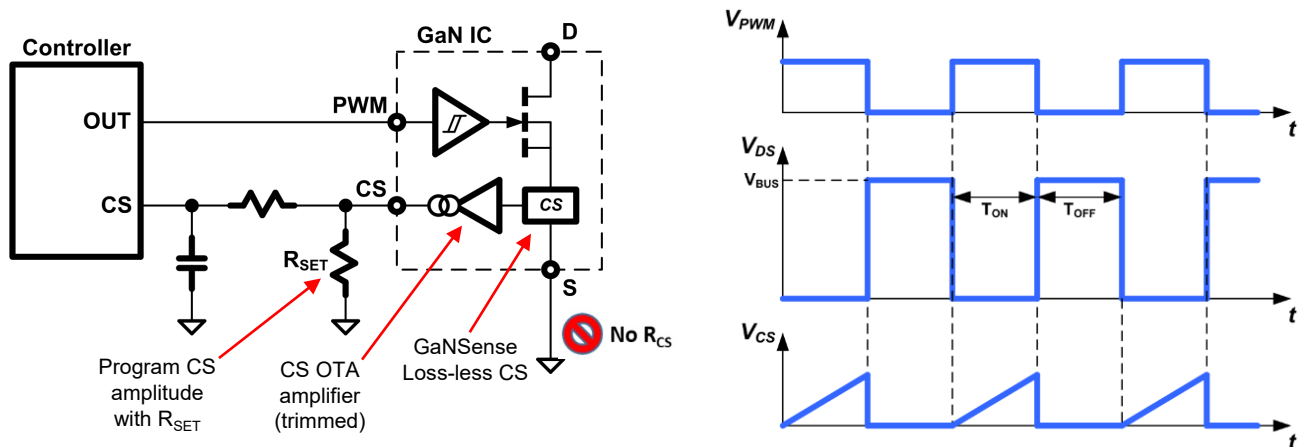

Fig 4. Loss-less current sensing circuit and timing diagram
For many applications it is necessary to sense the cycle-by-cycle current flowing through the GaN IC. Existing current sensing solutions include placing a series current sensing resistor in between the Source connection of the power FET and P_{GND} . Using external current sensing resistors increases system conduction power losses, creates a hot-spot on the PCB, and lowers overall system efficiency. To eliminate external resistors and hot-spot, and increase system efficiency, this GaN IC integrates accurate and programmable loss-less current sensing. The I_{DS} current flowing through the GaN IC is sensed internally (Fig. 4) and then amplified, trimmed and converted to a current at the current sensing output pin (CS). An external resistor (R_{SET}) is connected from the CS pin to the S_{GND} pin and is used to set the amplitude of the CS pin voltage signal. This allows for the CS pin signal to be programmed to work with different controllers with different current sensing input thresholds.